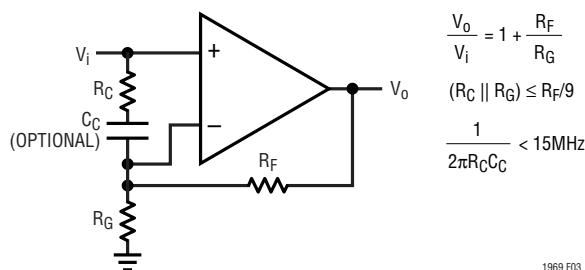
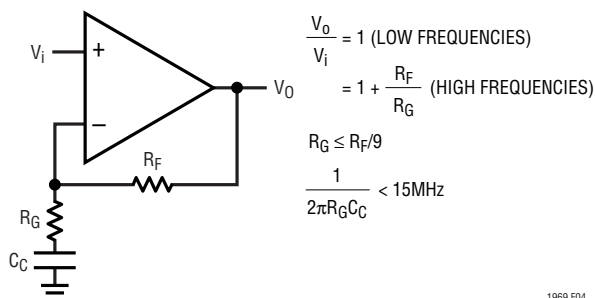
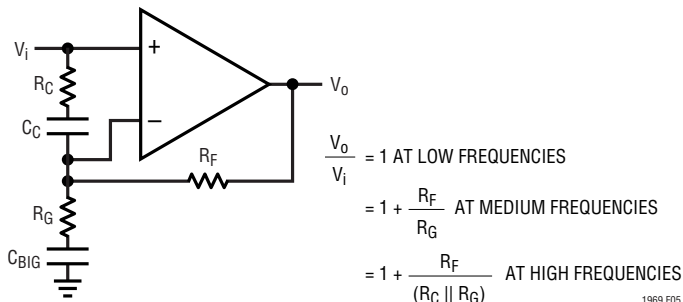

Figure 3. Compensation for Noninverting Gains
Figure 4. Alternate Noninverting Compensation
Figure 5. Combination Compensation
Figure 3 shows compensation in the noninverting configuration. The R_C , C_C network acts similarly to the inverting case. The input impedance is not reduced because the
Another compensation scheme for noninverting circuits is shown in Figure 4. The circuit is unity gain at low frequency and a gain of $1 + R_F/R_G$ at high frequency. The DC output offset is reduced by a factor of ten. The techniques of Figures 3 and 4 can be combined as shown in Figure 5. The gain is unity at low frequencies, $1 + R_F/R_G$ at mid-band and for stability, a gain of 10 or greater at high frequencies.
–73dBc for all swings up to $16V_{\text{P-P}}$ into the line. The gain of this circuit from the differential inputs to the line voltage is 10. Lower gains are easy to implement using the compensation techniques of Figure 5. Table 2 shows the drive requirements for this standard circuit.